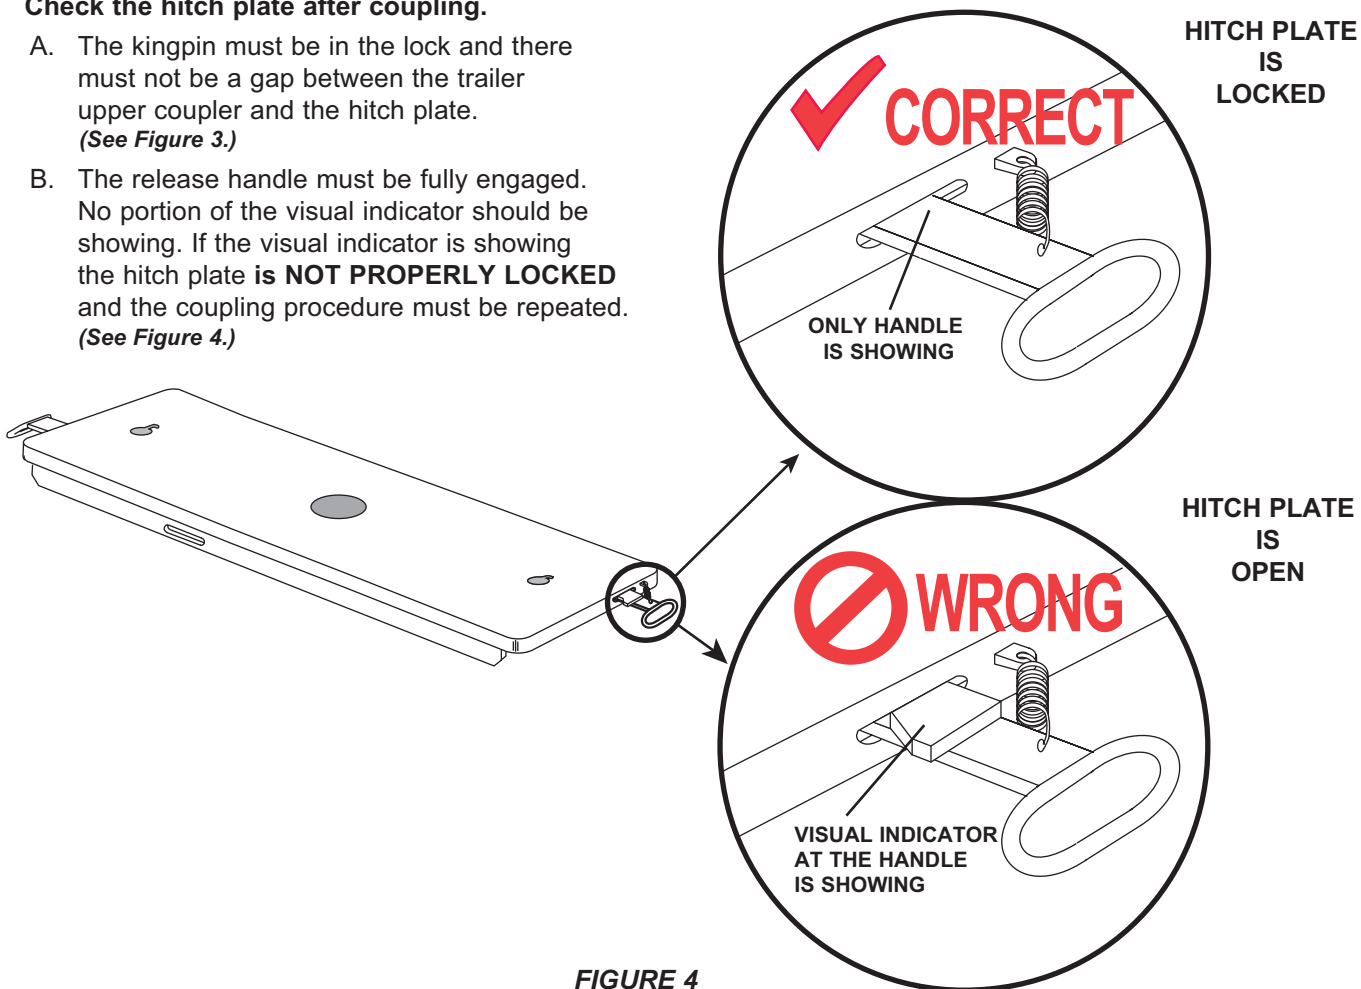

FIGURE 4
- B. The release handle must be fully engaged. No portion of the visual indicator should be showing. If the visual indicator is showing the hitch plate is **NOT PROPERLY LOCKED** and the coupling procedure must be repeated. (See Figure 4.)